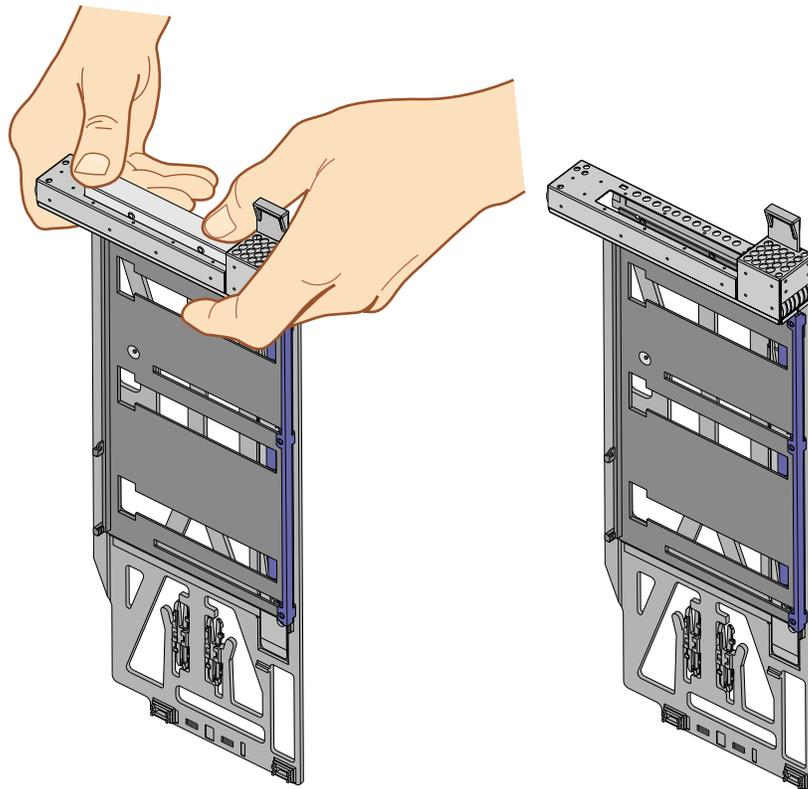

Figure 6-5 Extracting PCI Carrier's Metal Filler
2. If you are replacing a card, gently pull the existing PCI card from the carrier. If adding a PCI card, extract the PCI carrier's metal filler, by pushing down on it as shown in Figure 6-5. This filler covers the area where your PCI card's connectors will protrude out to the rear panel of the P-brick.